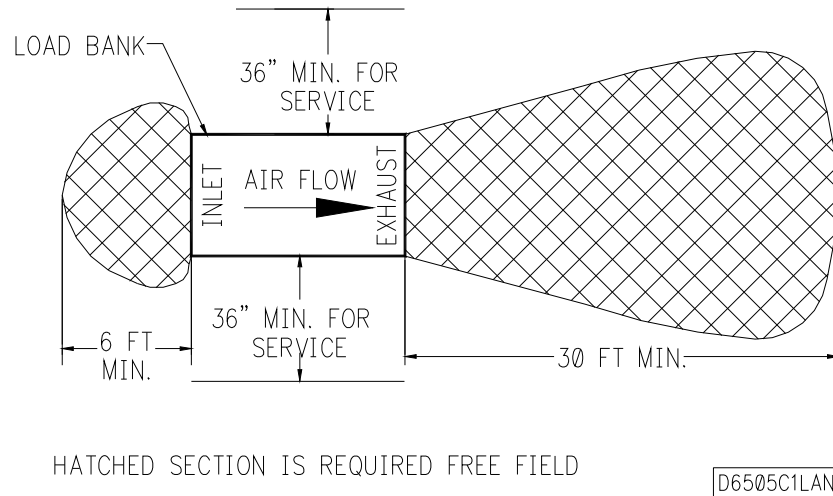

Figure 3-1. Load Bank Installation Airflow Clearance Requirements
1. Position the Load Bank with a minimum of 36 inches of clearance on both sides. This is in line with the airflow to allow access for service (Figure 3-1).
2. The inlet requires a free unobstructed hemispherical zone. The radius of this sphere must be at least 6 feet. Refer to Figure 3-1. If a unit is backed into a corner, the 6 feet is no longer sufficient. Consult Avtron Engineering to review prior to installation. The intake must not ingest heated air from another source. The maximum ambient intake air temperature is 120°F.
3. Provide a minimum of 8 feet from any obstruction for exhaust clearance to prevent air restrictions and to limit air recirculation. For thermal considerations, provide a minimum clearance of 30 feet from any temperature sensitive object. The heated exhaust air stream will damage temperature sensitive items if they are positioned within the 30 foot clearance area. Refer to Figure 3-1.
5. Locations which have full or partial perimeter fence necessitate a review. The fencing material should have at least 75% open area. The 36" minimum side clearances shown in Figure 3-1 still apply. Clearance on intake and exhaust can be adjusted only after approval by an authorized Avtron representative. Painted or plated metal chain link fence is the preferred material. All nonmetallic fencing materials are not recommended.